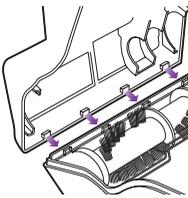

Fig. 23
- To reassemble, first insert the tabs on the front edge of the cover into the matching holes in the top half of the Power Brush and tilt the cover back down pressing until it clicks into place. (fig. 23)